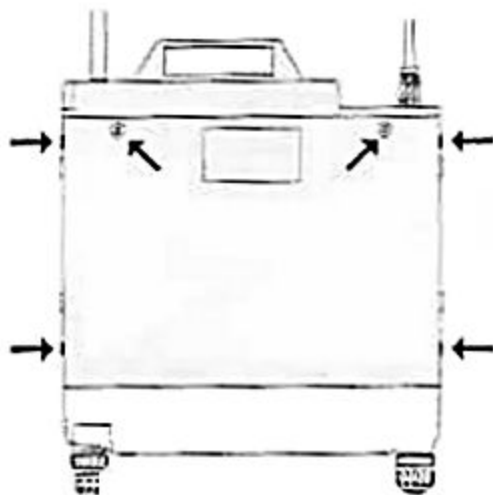

Figure 1
- Disconnect all cables and the microphone, and turn the transceiver upside-down. Referring to Figure 1, remove the six screws affixing the bottom cover.